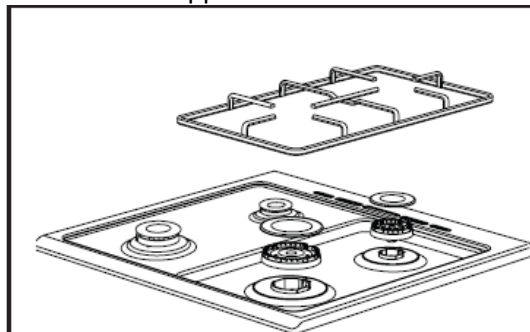

Figure 1
1. Lift the grate, burner cover and burner of the product so that the injector is visible (See figure 1).